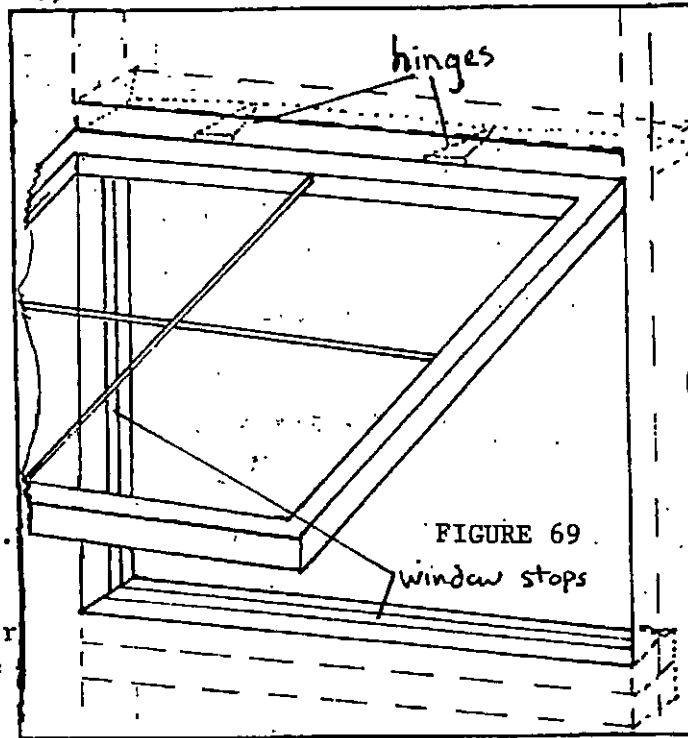

FIGURE 69
3. Staple or tack some 1" screen molding or 1 x 2 along the plates as a window stop. Use a hook and latch to secure the window in place when closed. A small stick will keep it open. (See Fig. 69)